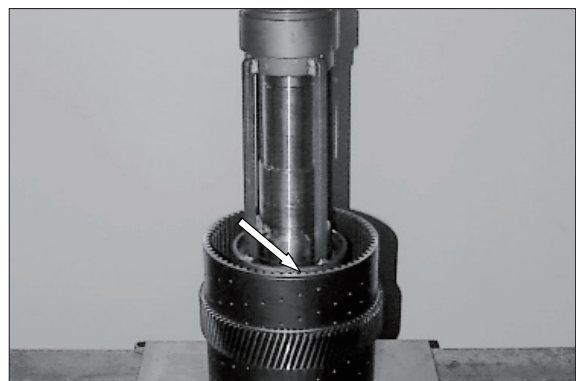

Figure 167
- (7) Lift the disc carrier out of the clamping ring. Preload the compression spring by means of fixture and engage the snap ring into the annular groove of the disc carrier (arrow), see figure 167.